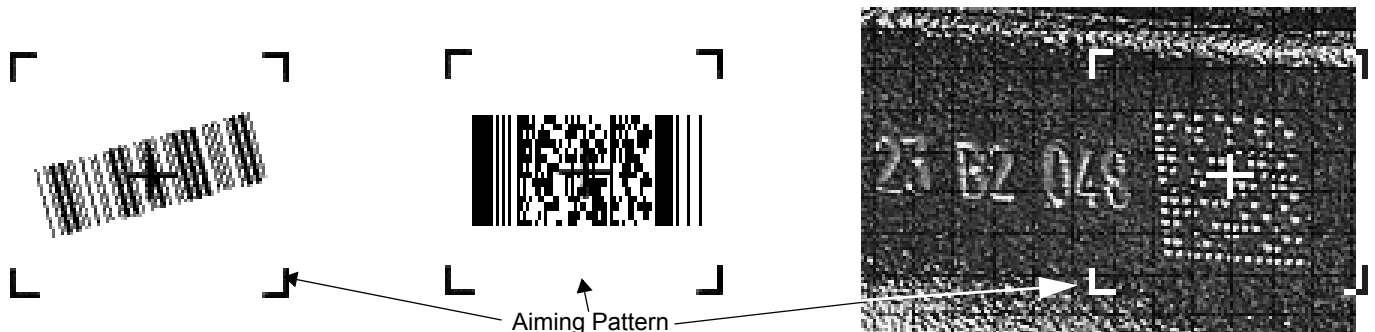

Figure 2-4 Centering Symbol in Aiming Pattern
- ✓ **NOTE** Scanning Direct Part Marks (DPMs) with the DS3478-DP (DPM) Digital Scanner: Due to the reflective nature of some surfaces used with DPMs (see Figure 2-4 on page 2-6), to achieve the best results when scanning DPMs, tilt the scanner at an angle relative to the target (25-45 degrees is recommended). As a guide, if you are decoding a 23 mil dot peen mark and the scanner is set to the near field focus, present the target between one and four inches from the nose of the scanner at a minimum tilt of 30 degrees.